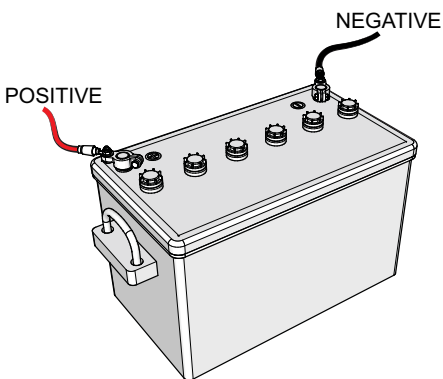

Figure 35. Battery Connections
**ALWAYS** be sure the battery cables (Figure 35) are properly connected to the battery terminals as shown below. The **red cable** is connected to the positive terminal of the battery, and the **black cable** is connected to the negative terminal of the battery.